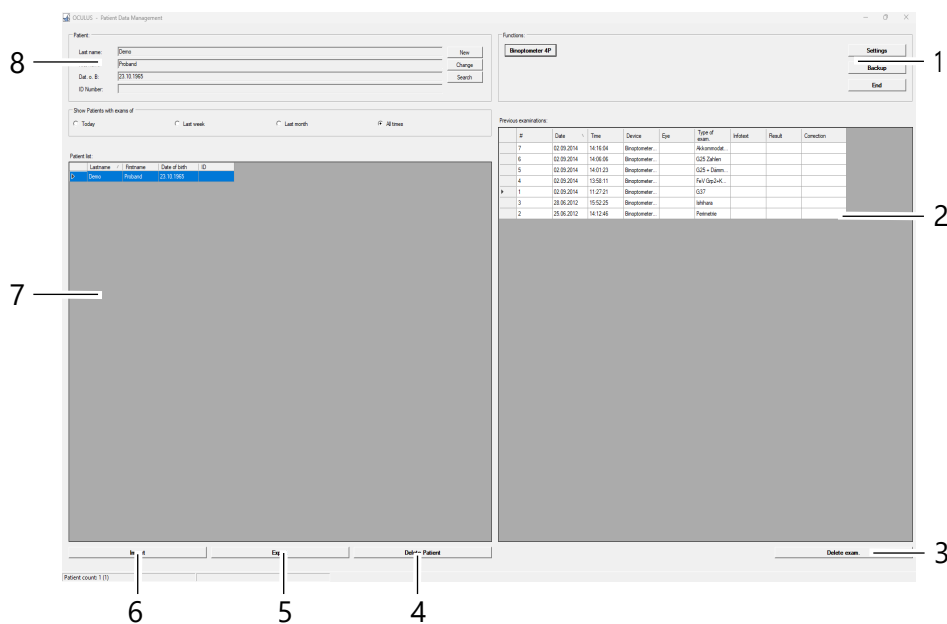

Fig. 8: Patient data management user interface
- Double-click the desired list entry in the examination list → Fig. 8 (page 24), item 8.